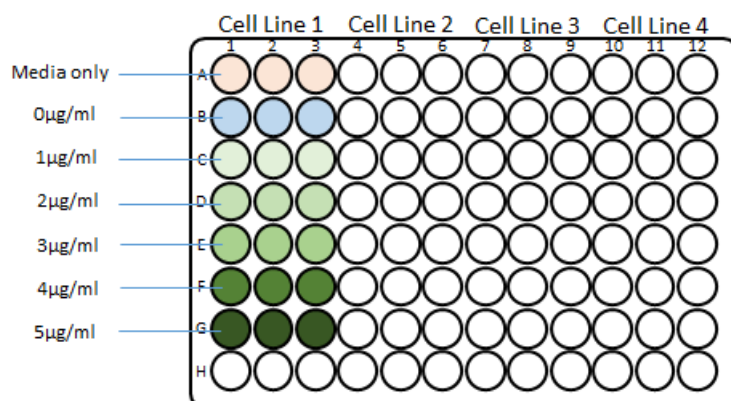

Figure 1. Plate layout for puromycin titration of one cell line.
Always seed 3 wells per row as the titration is carried out in triplicate. Therefore, a 96-well plate can be used to titrate up to 4 cell lines at a time (see Fig. 1).
- 6 Pipette **75 µL** of the puromycin 2x concentrations into the first 3 wells of rows C-G, to achieve the final concentrations as per the plate layout shown in Fig. 1.